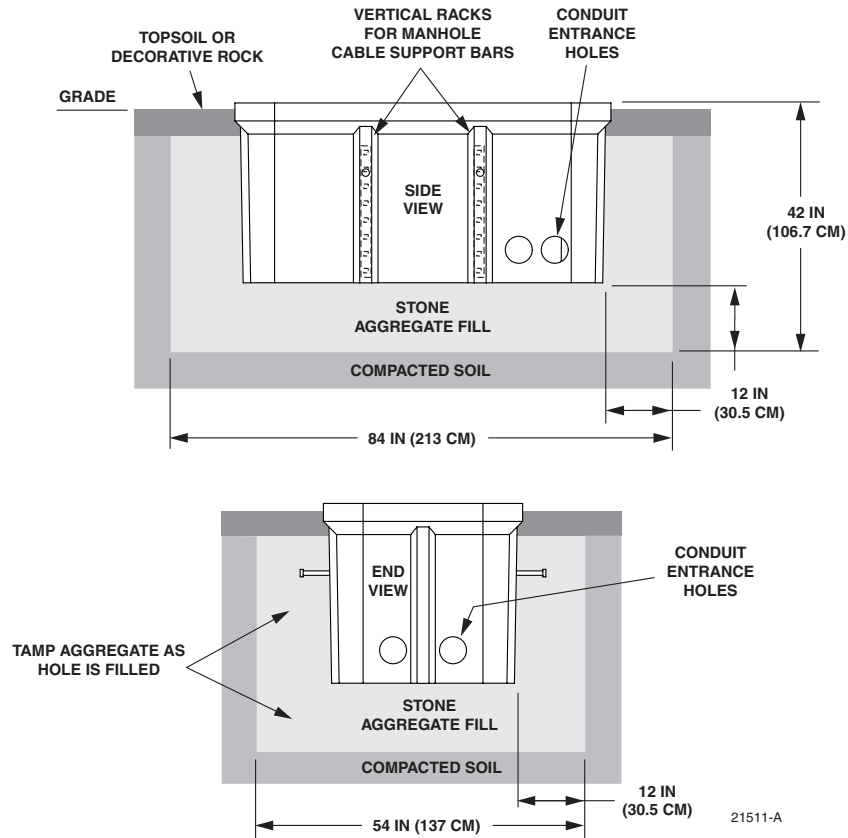
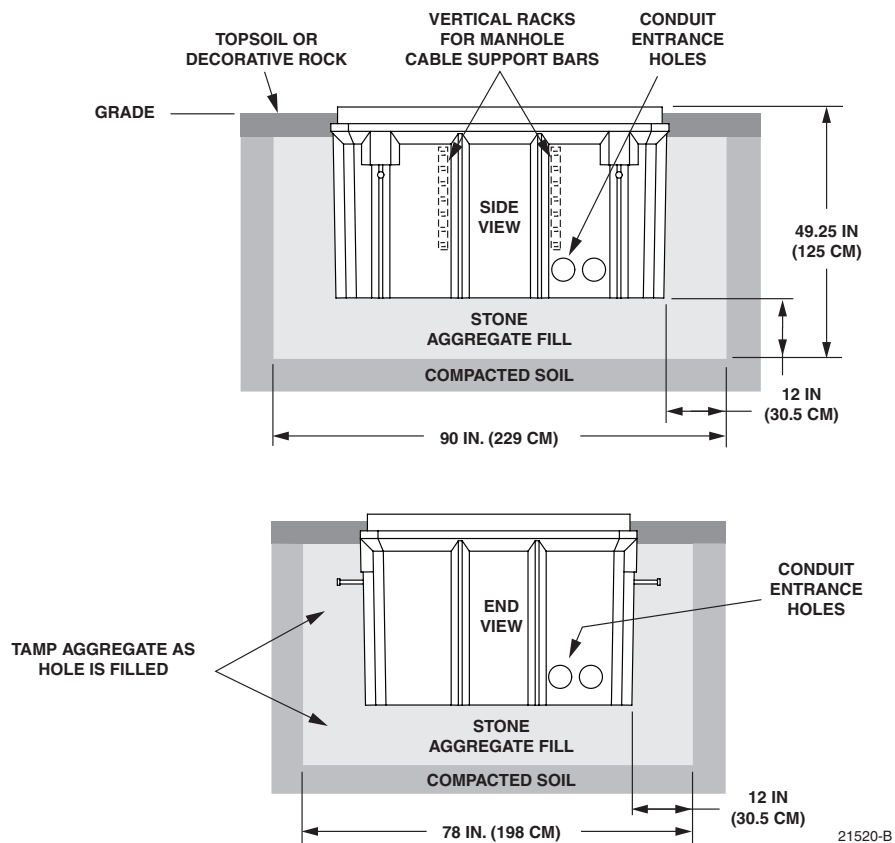

Figure 5. Excavation Recommendations for FMS-ACE100-KIT-A (Small FMS)
Figure 6. Excavation Recommendations for FMS-FD3EG-LKIT-A (Large FMS)
The excavation must be large enough to provide a fill base that will maintain stability for the FMS and the cabinet mounted on it. There must be room for 12 inches (30.5 cm) of fill below and on each side of the FMS. The excavation dimensions for the small FMS are shown in Figure 5. The excavation dimensions for the large FMS are shown in Figure 6. Excavate a rectangular hole for the FMS.
Select the conduit entrance holes (see Figure 5 or 6) for the OSP feeder and distribution cables. If necessary, additional conduit entrance holes may be cut using a power drill and hole saw. Place and route the conduit into the entrance hole(s). If preferred, the FMS may be installed without conduit. OSP cables may be routed into the FMS at any point that is convenient. Cut the cable entrance hole to match the size of the cable.
10.6.2 Complete the back-fill with crushed rock or topsoil depending on the landscaping requirements. The top surface of the mounting sleeve may be located from 0 to 4 inches (10.2 cm) above the surrounding grade (see Figure 5 or 6).